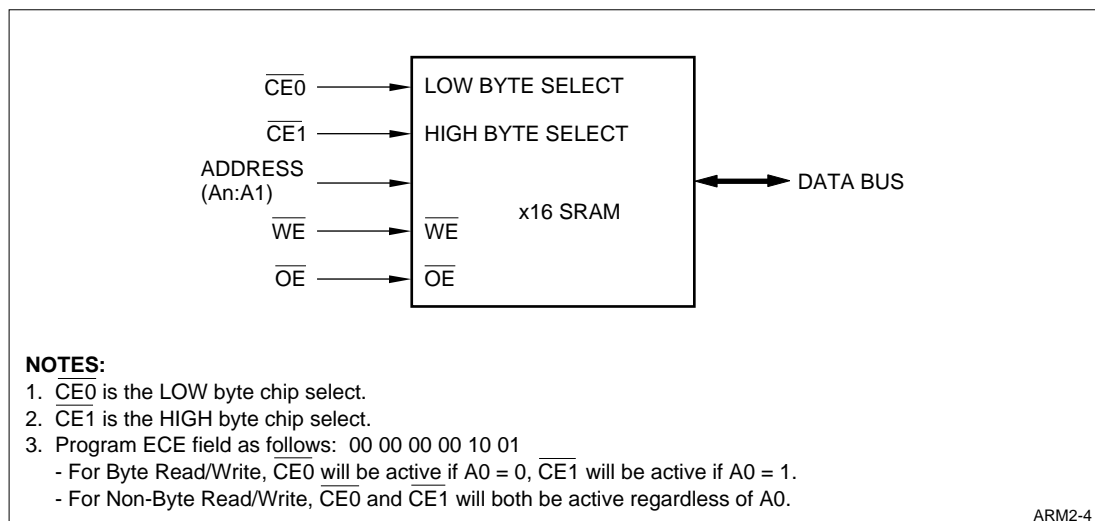

Figure 5-3. ECE Example
These 12 bits control the six external $\overline{CE}/\overline{CAS}$ pins. For SRAM, these pins will be used as \overline{CE} pins. Each pin is controlled by 2 bits from ECE field to support byte enables on x16 SRAMs as shown in Figure 5-3. Each \overline{CE} pin can be enabled for low byte, high byte, or both depending on address bit0 (A0), external memory bus size (MS) and access type (Byte, Half-Word, or Word Loads and Stores).